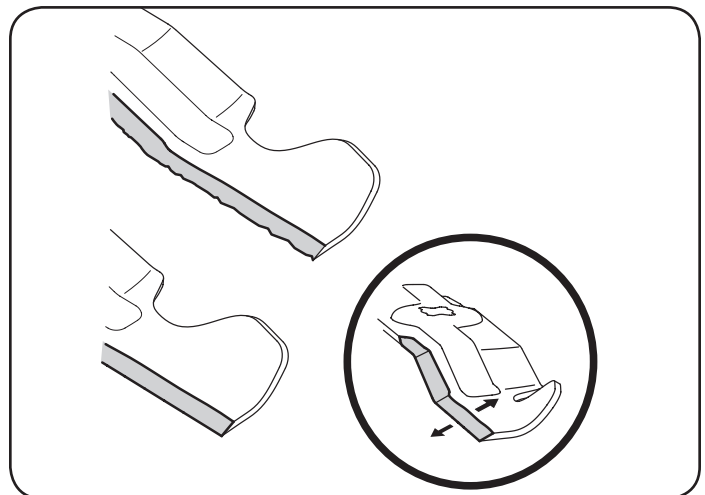

Figure 40
4. To properly sharpen the cutting blades, remove equal amounts of metal from both ends of the blades along the cutting edges, parallel to the trailing edge, at a 25°- to 30° angle. Always grind each cutting blade edge equally to maintain proper blade balance. See Figure 40.